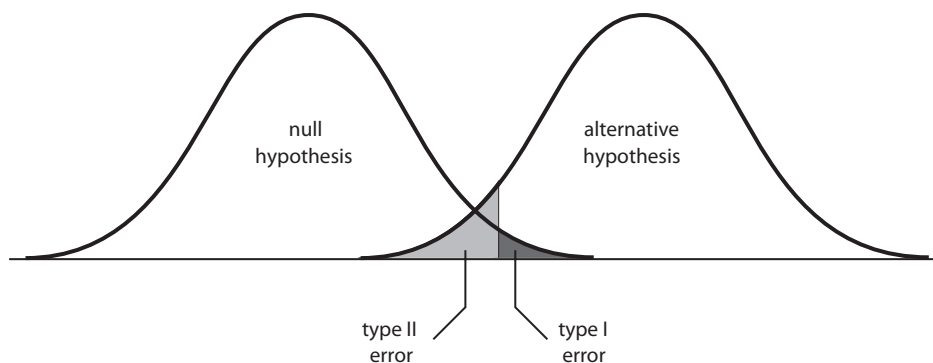

Figure 29.7. Type I and type II error levels.
- β is usually set at 0.2 and the power of a study is defined as $(1 - \beta)$ that in this case would be 0.8. As demonstrated by Figure 29.7, the levels at which type I and type II errors are set in finite samples are related; decreasing the probability of one occurring increases the probability of the other, and vice versa. The only way to decrease the probability of both is to increase the sample size, which may not be practical. As such, this leaves us having to accept a trade-off, which in medical research is usually set as a 4 to 1 weighting in favour of making a type II error (0.2) versus a type I error (0.05).